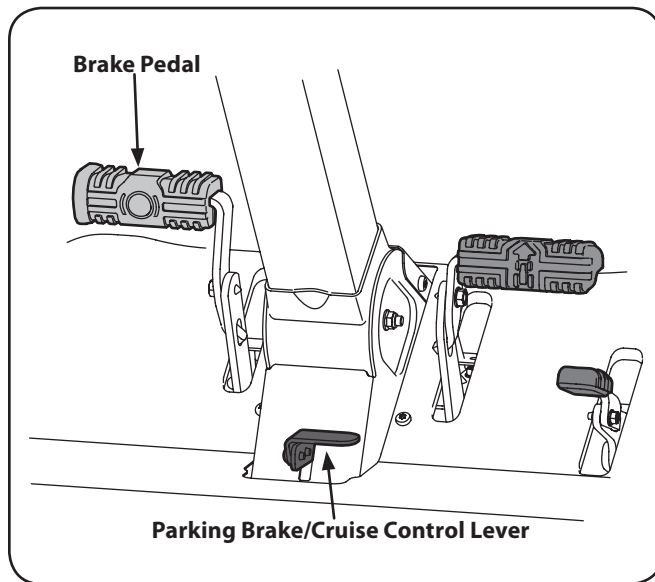

Figure 5-1
2. Engage the parking brake by pressing forward on the brake pedal (○), then press down on the parking brake/cruise control lever and then release the brake pedal (○). Refer to Fig. 5-1.
3. Make certain the PTO switch is in the disengaged (down) position. Refer to Fig. 5-1.